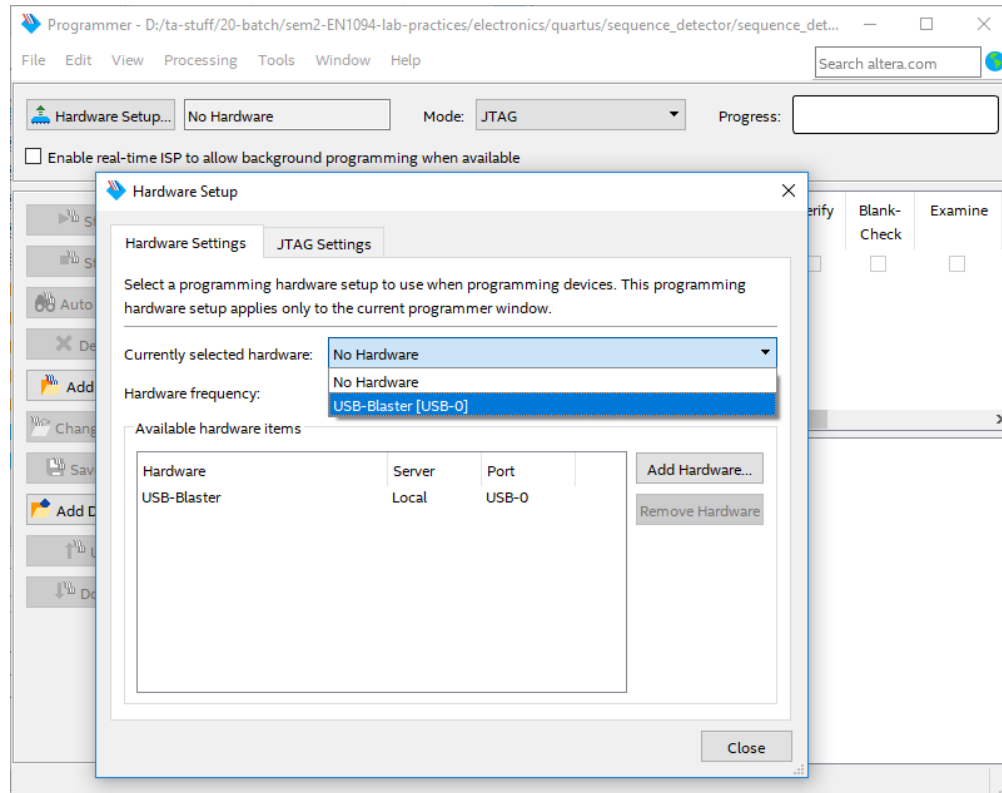

Figure 6.11: Hardware Setup
4. In the **Hardware Settings** tab, set **USB-Blaster** as the **Currently selected hardware** and press **Close** (see Figure 6.11).